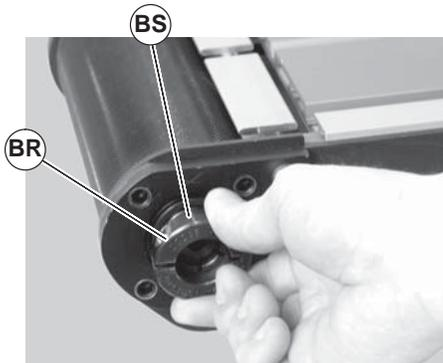
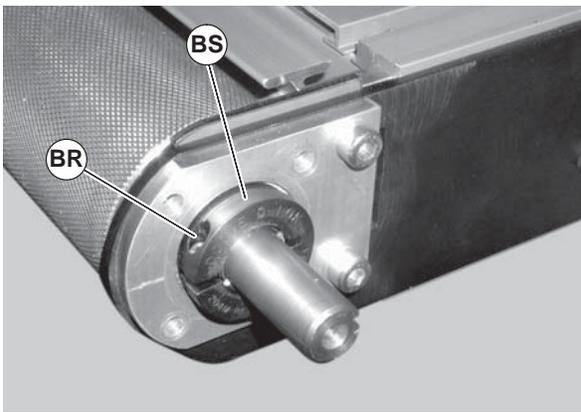

Figure 50
Figure 51
5. Loosen the bearing collar set screw (Figure 50, item BR) and remove bearing collar (BS). Repeat on drive shaft side of pulley (Figure 51, item BR and BS).